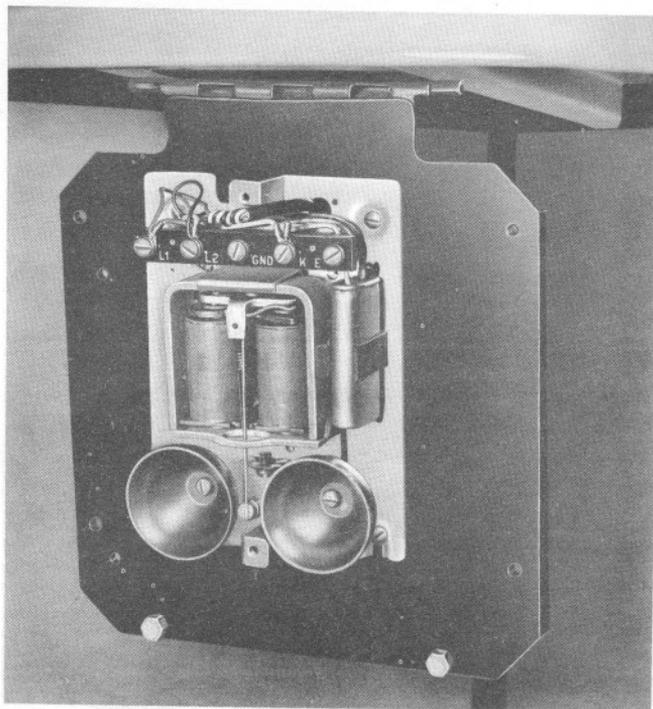

Fig. 3 — Hinged Mounting Plate on 18-type Shelf
5.02 It is equipped on the underside with a hinged mounting plate which is arranged for mounting a 531-, 634-, 684-, or 685-type subscriber set (see Fig. 3).